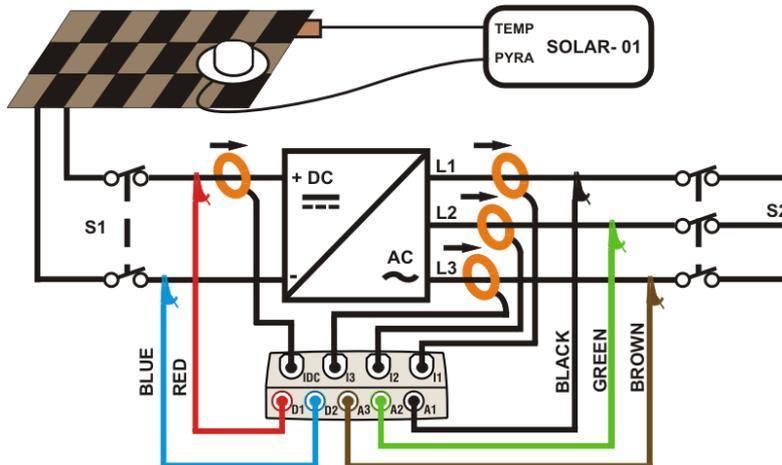

Fig. 244: Connecting the instrument to a PV-3 system with SOLAR-01
2. Connect inputs **D1** and **D2** to the positive and negative string output pole respectively. Connect inputs **A1**, **A2** and **A3** to the phase conductors, respecting the colors as shown in Fig. 244
3. Connect the DC current clamp to the positive string output conductor **by respecting the direction of the arrow** on the clamp itself as indicated in Fig. 244. **Check the status of internal batteries of the DC clamp after the connection to the installation**
4. Connect the AC clamps to the Phase L1, L2, L3 conductors **by respecting the direction of the arrow** on the clamps as indicated in Fig. 244. Connect the output of the clamps to the **I1**, **I2**, **I3** input of the instrument respectively